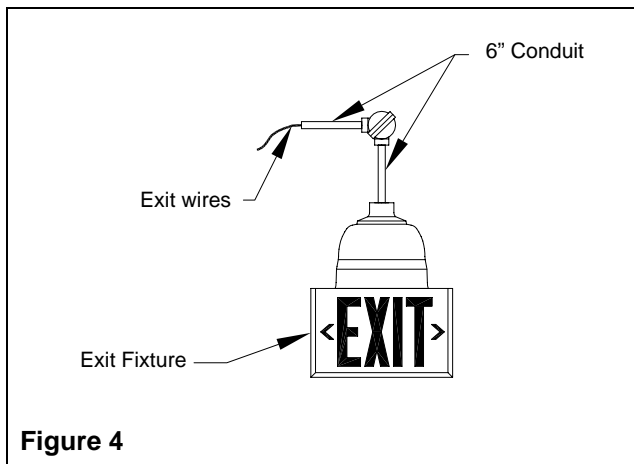

Figure 4
6. Disconnect swivel elbow by removing the screw (see fig. 4). Route EXIT fixture wires through the 90-degree elbow on top of housing. Connect swivel elbow with 6" conduit to the 90-degree elbow. Do not lengthen this conduit unless a seal-off is fitted within 18" of the housing. Permanently secure and tighten all fitting after properly positioning. Re-assemble swivel elbow.